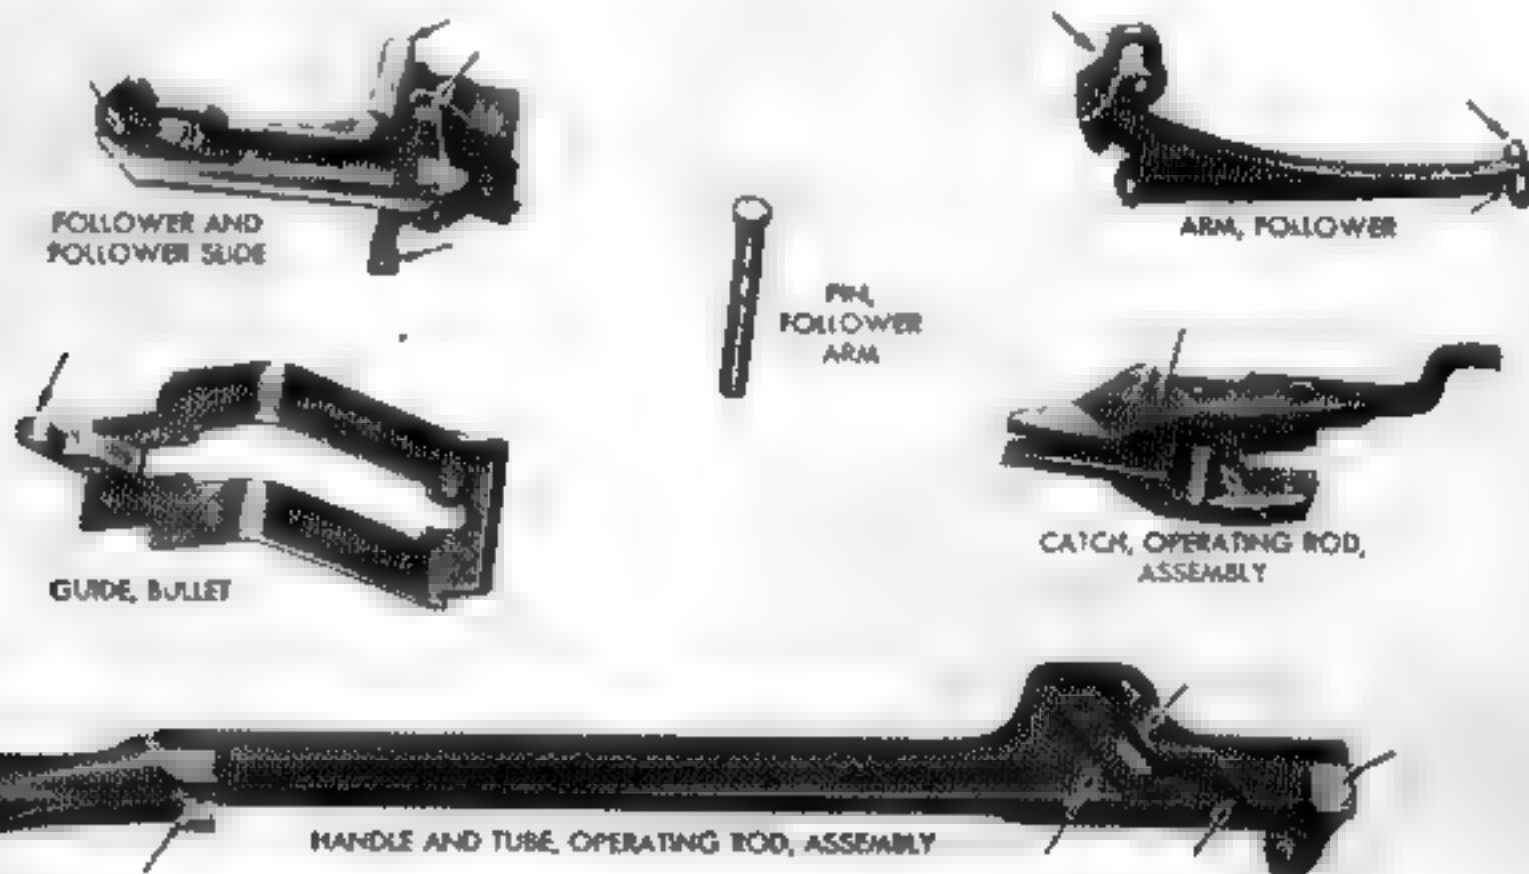

Fig. 117. Receiver group - points to inspect.
45. General: inspect all parts for damage, wear, burrs, rust, foreign matter in recesses, deformation, and for function and free action with mating parts. Important parts to be inspected are shown in Fig. 117 and 118. Test all springs for set, minimum length, and fractures.
48. Operating rod (Fig. 117): inspect for binding between the barrel and receiver group and the operating rod by installing the rod and bolt in the rifle. As the rifle is tipped up and down, the rod and bolt should be moved from the closed position to open position and back by their own weight. If there is binding, inspect the tube for dents and the handle for deformation, which will cause binding of the under side of the lug on the cut in the receiver. Inspect the piston for scoring and the accumulation of excessive carbon. Inspect the diameter of the piston with the no-go gage (Fig. 122). If measuring the piston with a micrometer, pistons which measure .525 or more inches will be considered serviceable. If the piston diameter is below the minimum as shown on the serviceability chart, the piston should be considered unserviceable.
49. Follower and follower slide (Fig. 117). Inspect the slides on follower for correct angle. An angle of approximately 92 degrees plus or minus 0 degree 20 minutes must be maintained (Fig. 123)